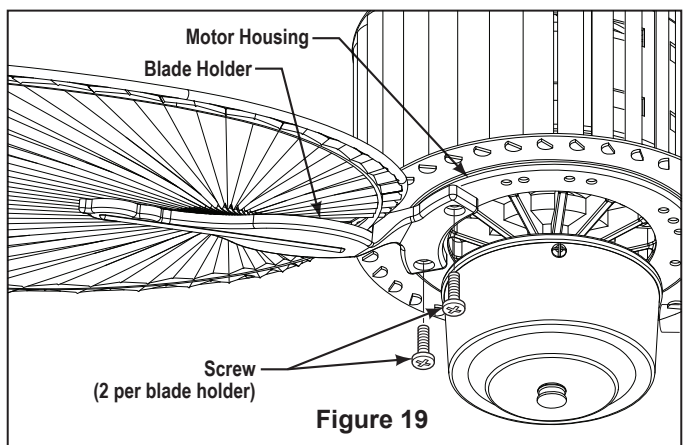

Figure 19
7. Attach Blade Holders to the bottom of the Motor Housing using the 10-32 x 1/2" Flywheel Screws as shown in Figure 19.
8. Make sure the screws securing the Blade Holders to the Motor Housing are tight and that the Blade Holders are properly seated on the Motor Housing. (Figure 19)